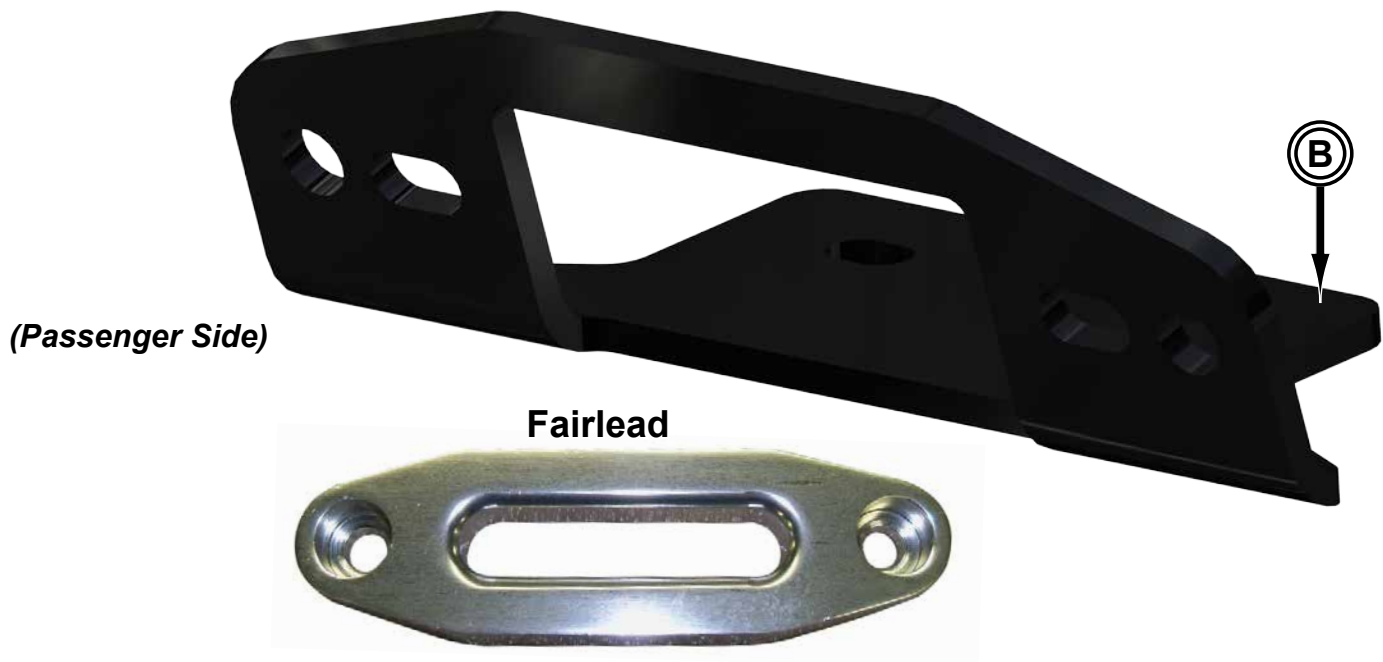

Fig. 3
3. Install Winch Mount Plate (A) to Frame with M10 x 25mm Lg. HHCS, M10 Flat Washers, and M10 Nylock Nuts for rear-most connection. See Figs. 3 - 3c.
- Install Fairlead Plate (B) to Frame and Winch Mount Plate (A) with M8 x 30mm Lg. HHCS, M8 Flat Washers, and M8 Nylock Nuts. See Figs. 3 - 3c.